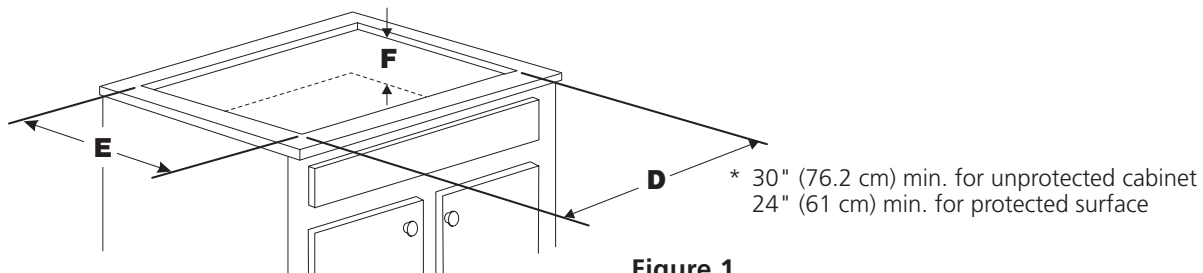
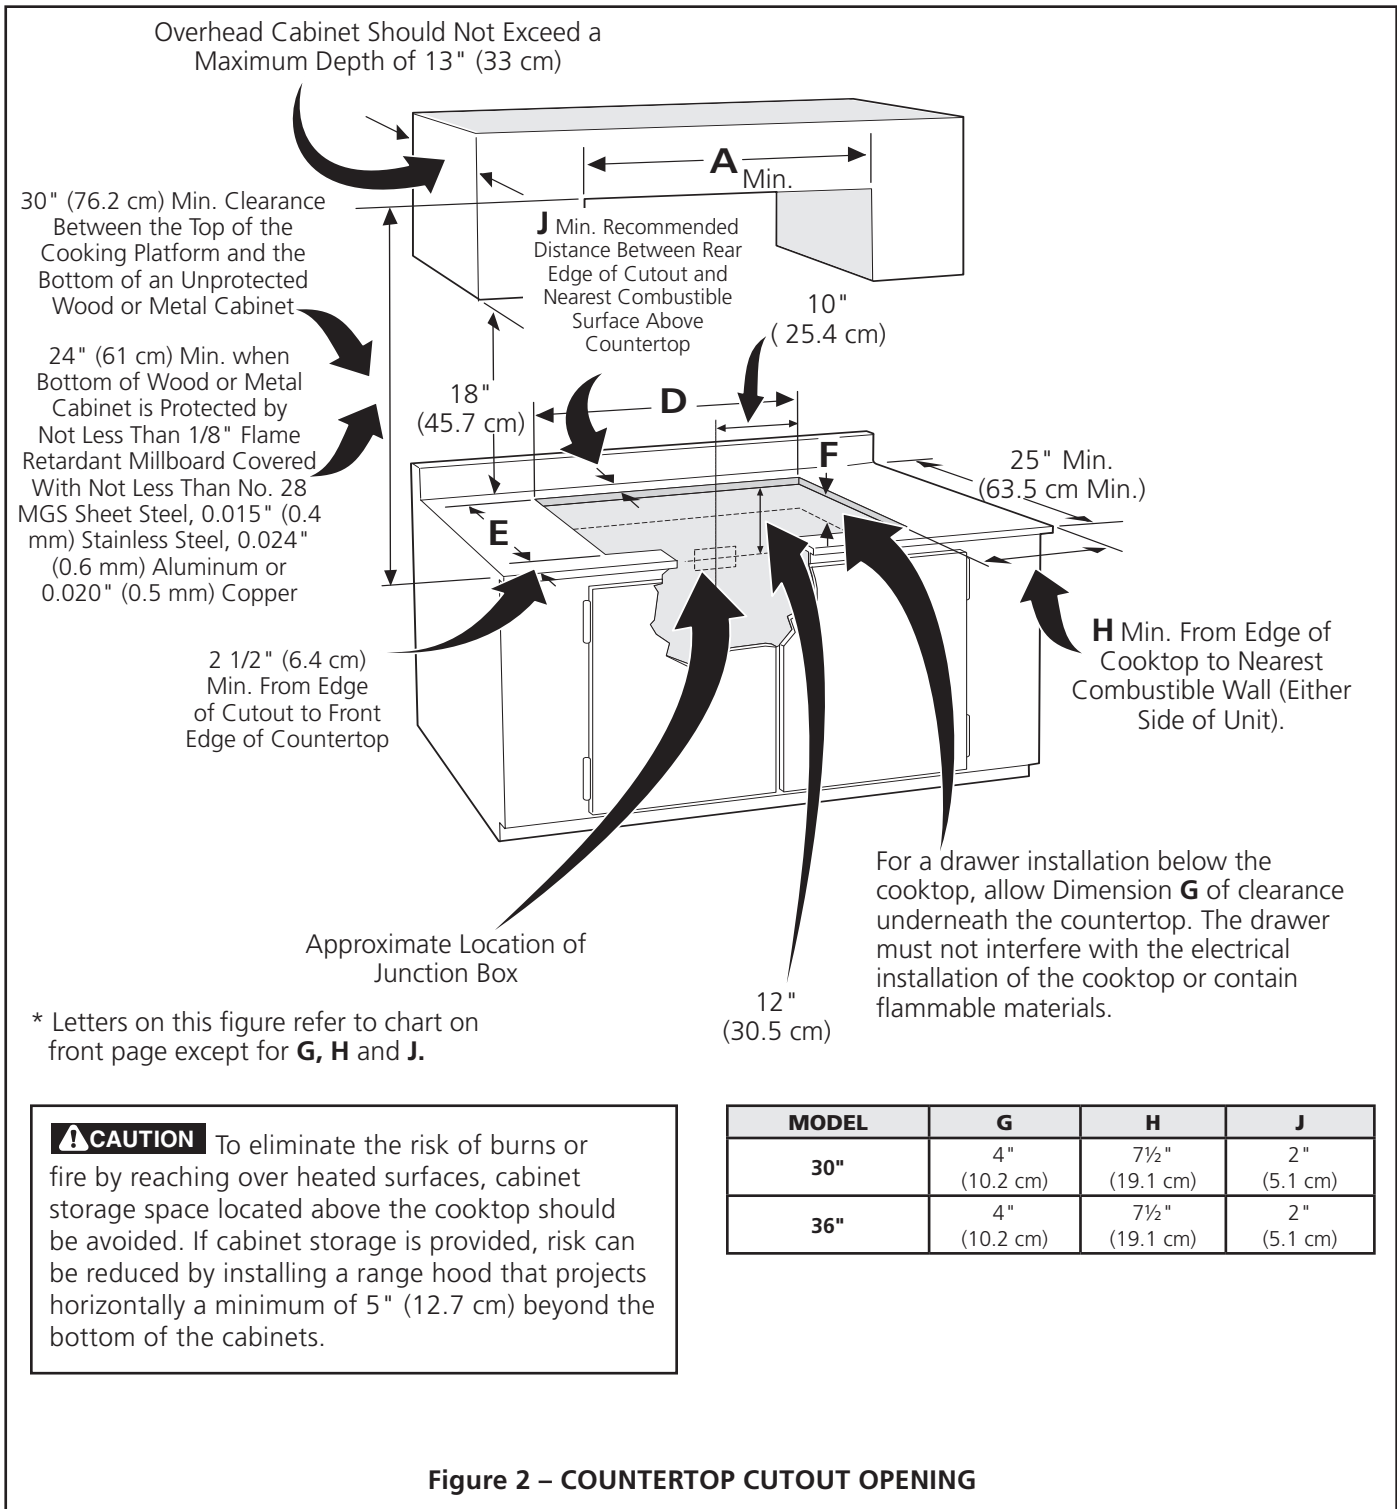

Figure 1
Figure 2 – COUNTERTOP CUTOUT OPENING
2. The flexible armored cable extending from the appliance should be connected directly to the junction box. The junction box should be located as shown in Figure 1 or Figure 2 and with as much slack as possible remaining in the cable between the box and the appliance, so it can be moved if servicing is ever necessary.